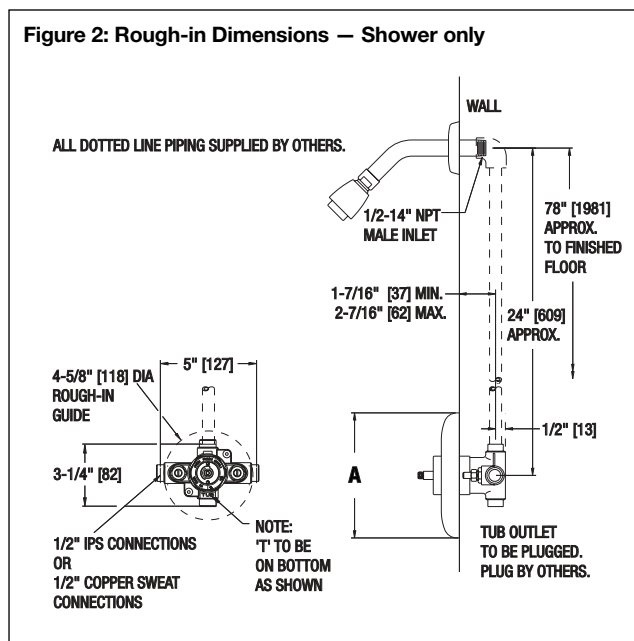

Figure 3: Stem Position Information
2. For standard inlets: Valve is factory-set for standard inlets ("TOP" stamped on stem should face shower outlet "S", see Figure 3.) If reversed inlets are required due to back-to-back installation (Cold water supply on the left and Hot water supply on the right), see Figure 3 and follow instructions a-d below: